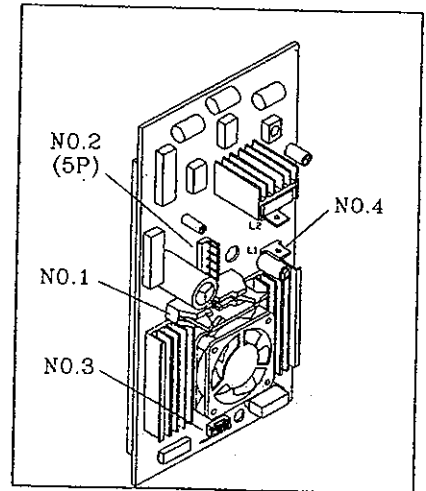

Fig 2.
2. Release the 16 pin (No. 1) cable from its socket. First pull back the retaining clips to release the cable (see Fig. 2 & 3).
3. Remove wiring harness No. 3 and then No. 2 by depressing the tab and pulling (see Fig. 2, 4 & 5).
4. Remove the two No. 4 blue wires from the L1 & L2 sockets (see Fig. 2 & 6).